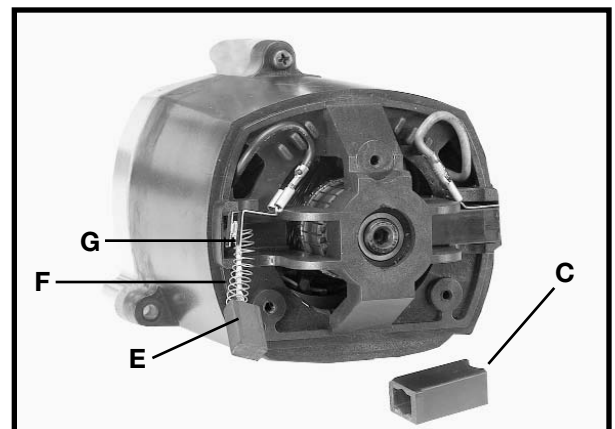

Fig. 51
3. Fig. 51 illustrates one of the brushes (E) removed from the holder (C). When the carbon on either brush (E) is worn to 3/16" in length or if either spring (F) or shunt wire (G) (beneath spring) is burned or damaged in any way, replace both brushes. If the brushes are found serviceable after removing, reinstall them in the same position as removed.